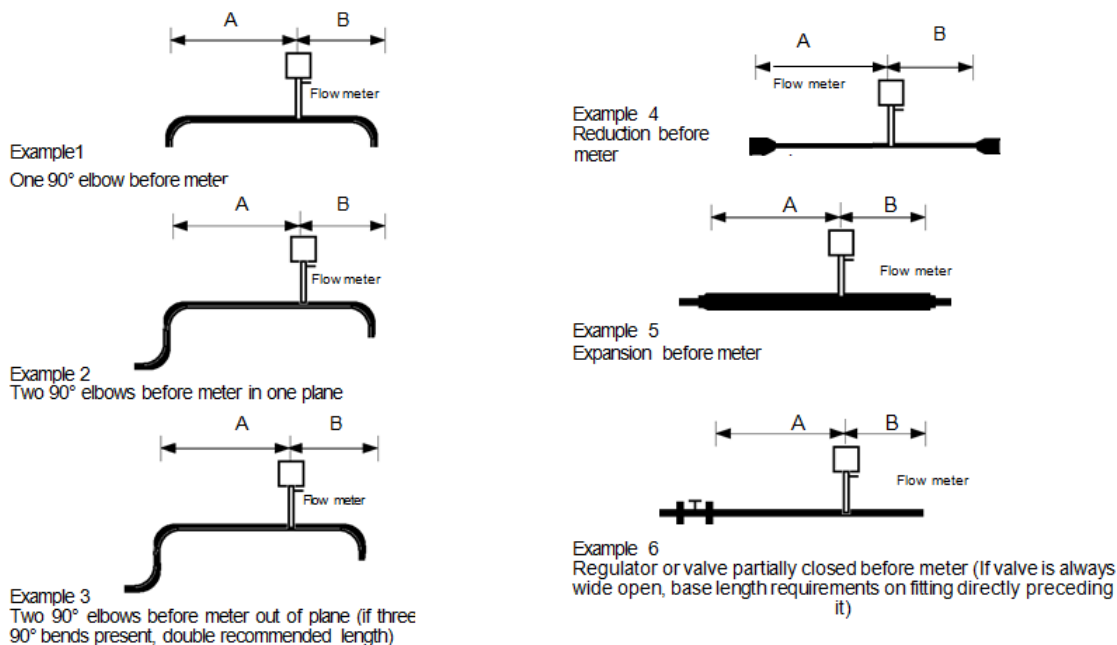

Figure 2-1. Recommended Pipe Length Requirements for Installation
2. The location meets the required minimum number of pipe diameters upstream and downstream of the sensor head (see Figure 2-1).
2. Confirm that the installation site meets the minimum upstream and downstream pipe diameter requirements. See Figure 2-1.